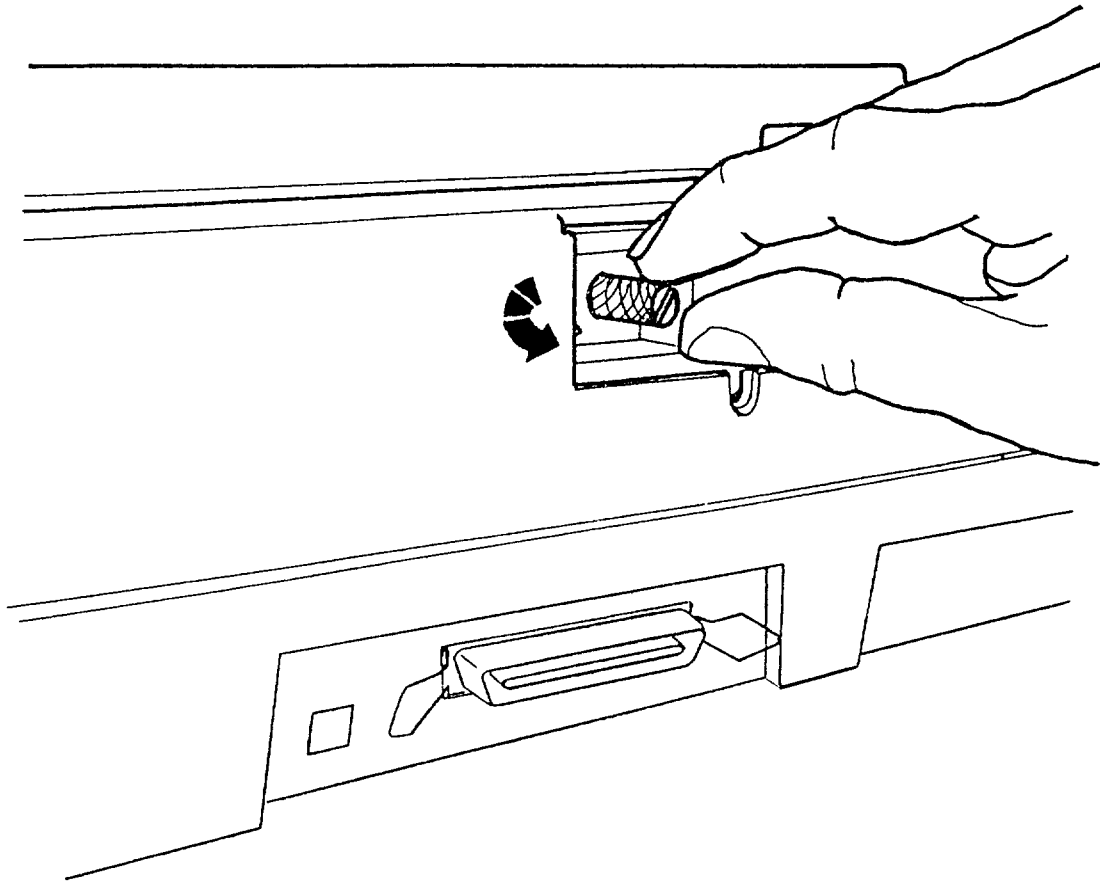

Figure 4.4 Replacement of the lamp unit:
11. Turn the copper bar counterclockwise to remove it from the scanner as shown in Figure 4.4.